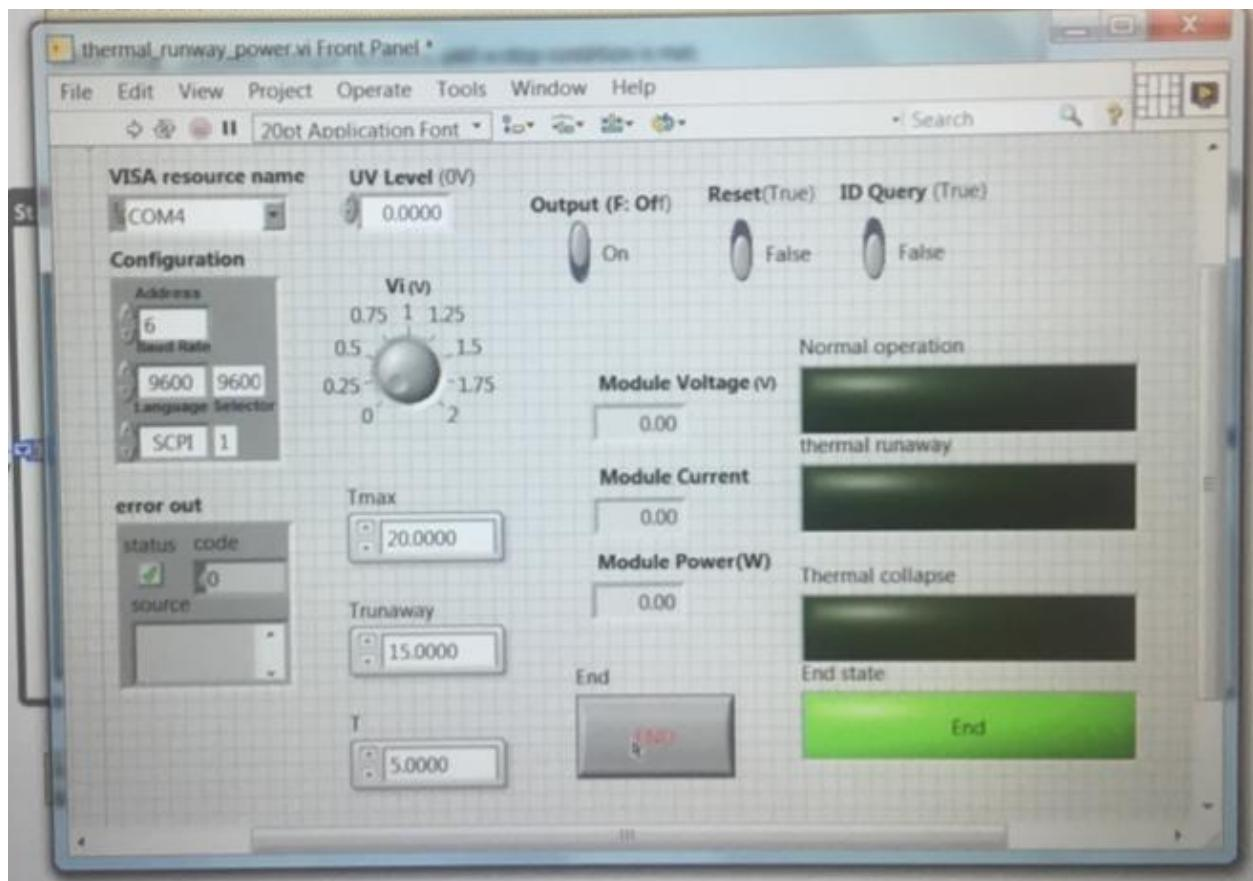

Figure 3: .
7. The Z+ output is controlled by a Labview program called "*thermalrunawaypower.vi*". The basic functionality allows the user to change the Voltage output (Vi) (the current change according to the Ohm's law) and so the power while keeping fixed the temperature; Open the program and check the initial conditions as shown in figure 3